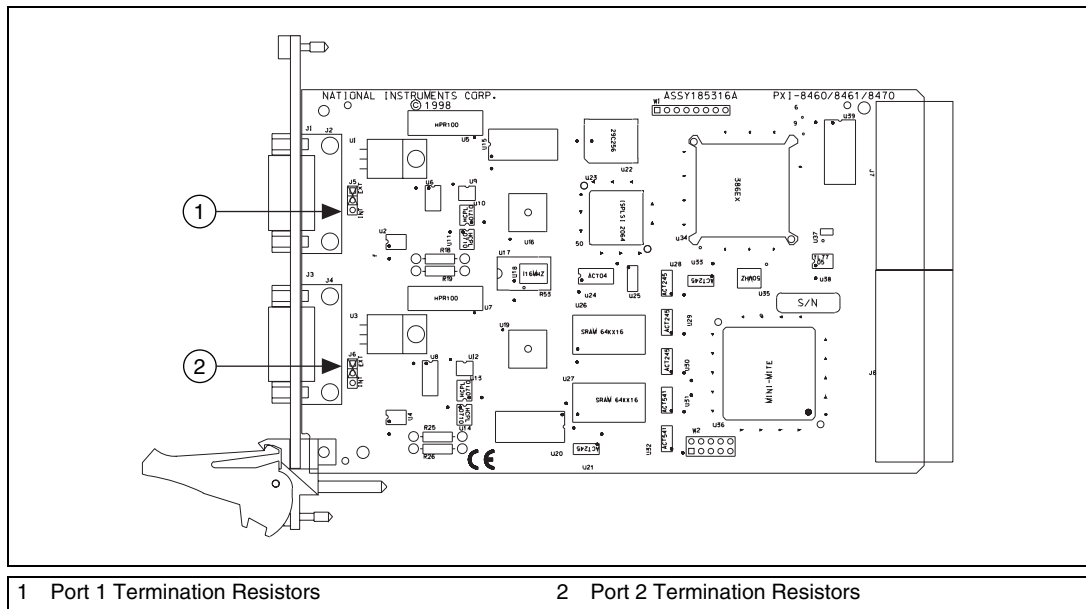

Figure C-9. Location of Termination Resistors on a PXI-8460
1. Remove the termination resistors on your PXI-8460. Figure C-9 shows the location of the termination resistor sockets on a PXI-8460.